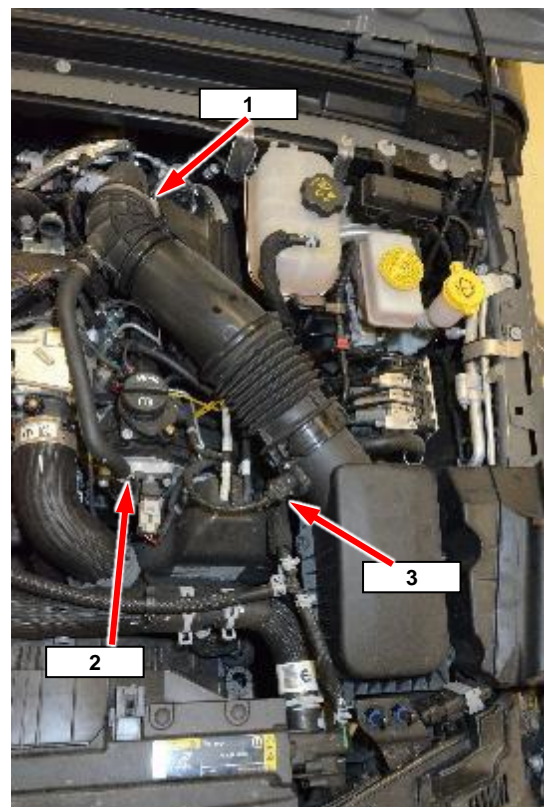

Figure 99 – Inlet Air Tube
13. Remove the clamp at the turbocharger air inlet elbow (1). Slide the CCV hose (2) off at the head. Disconnect the Mass Air Flow connector (3) (Figure 99).